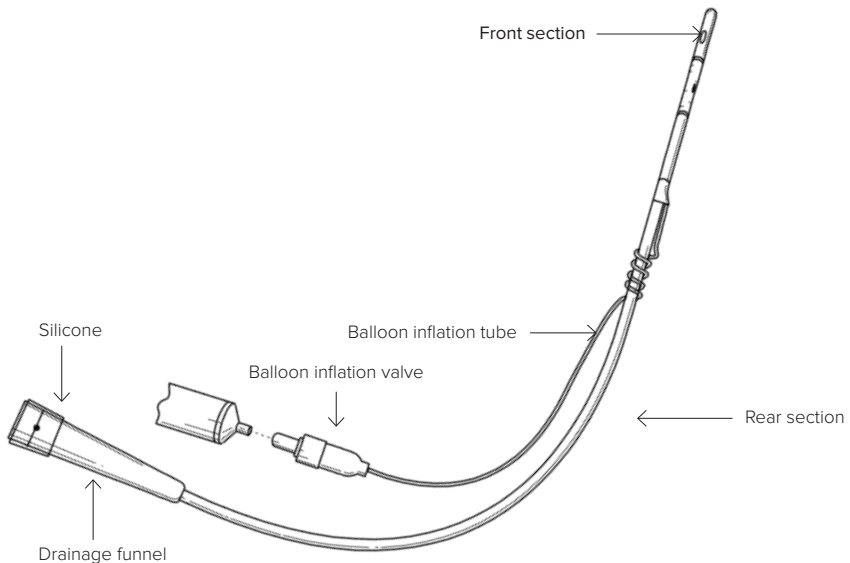

Figure 1
- The CoreFlow® Soft Stent is a soft stent that consists of two parts, referred to as the front section and rear section, see figure 1. The two parts can be separated by a simple operation.